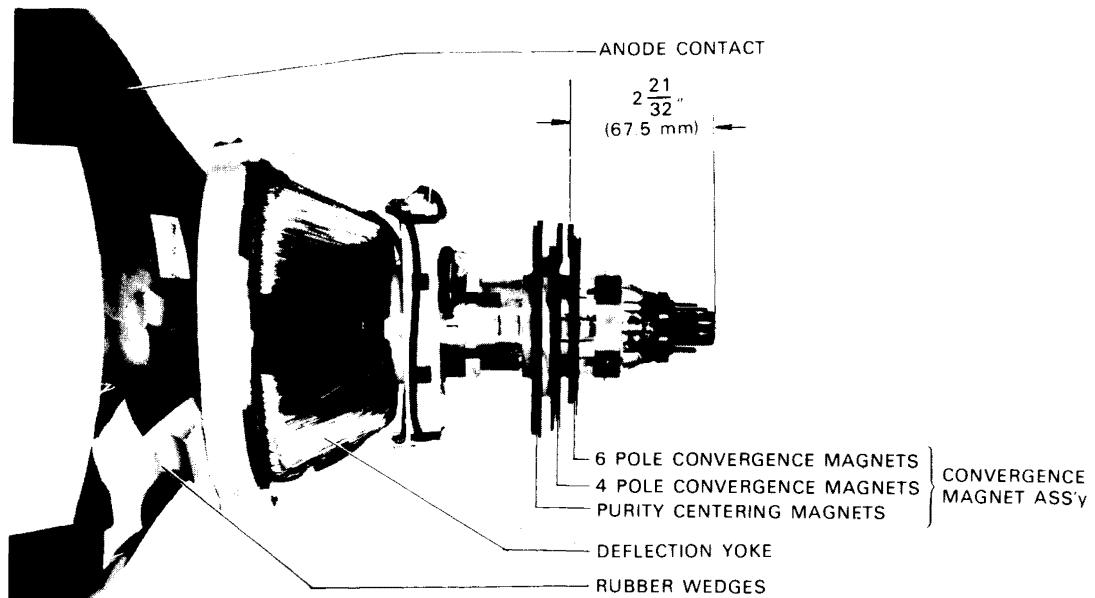

FIGURE 13. PICTURE TUBE NECK COMPONENTS LOCATION
- Insert service tip "N" on Neck circuit board to "S" on Vert./Horiz. circuit board (See Fig. 13). To check, use the Green raster at low intensity. Be sure to return the service tips to their original positions for the next check.